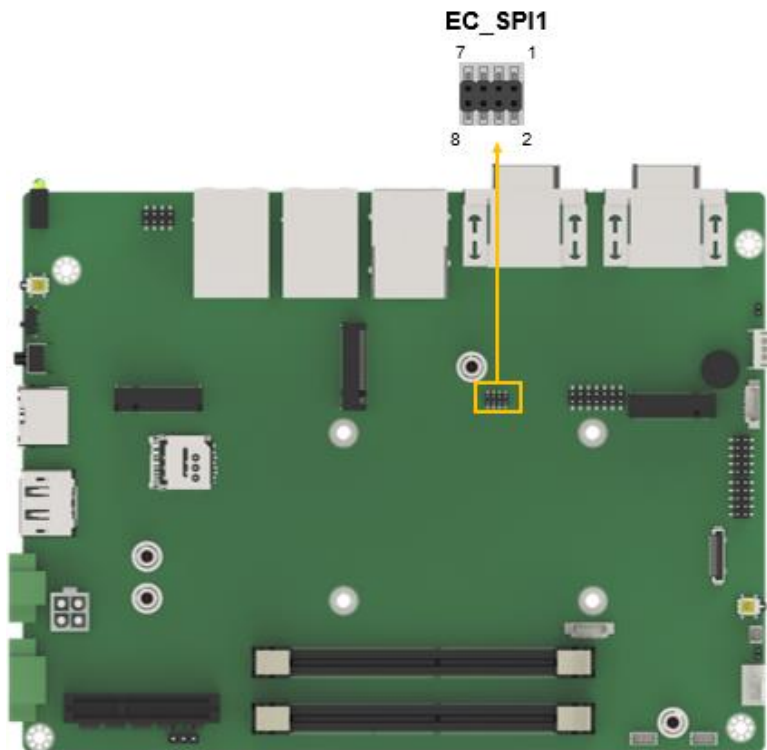

Figure 4-20: Flash EC ROM Connector Location
- CN Location:** See Figure 4-20